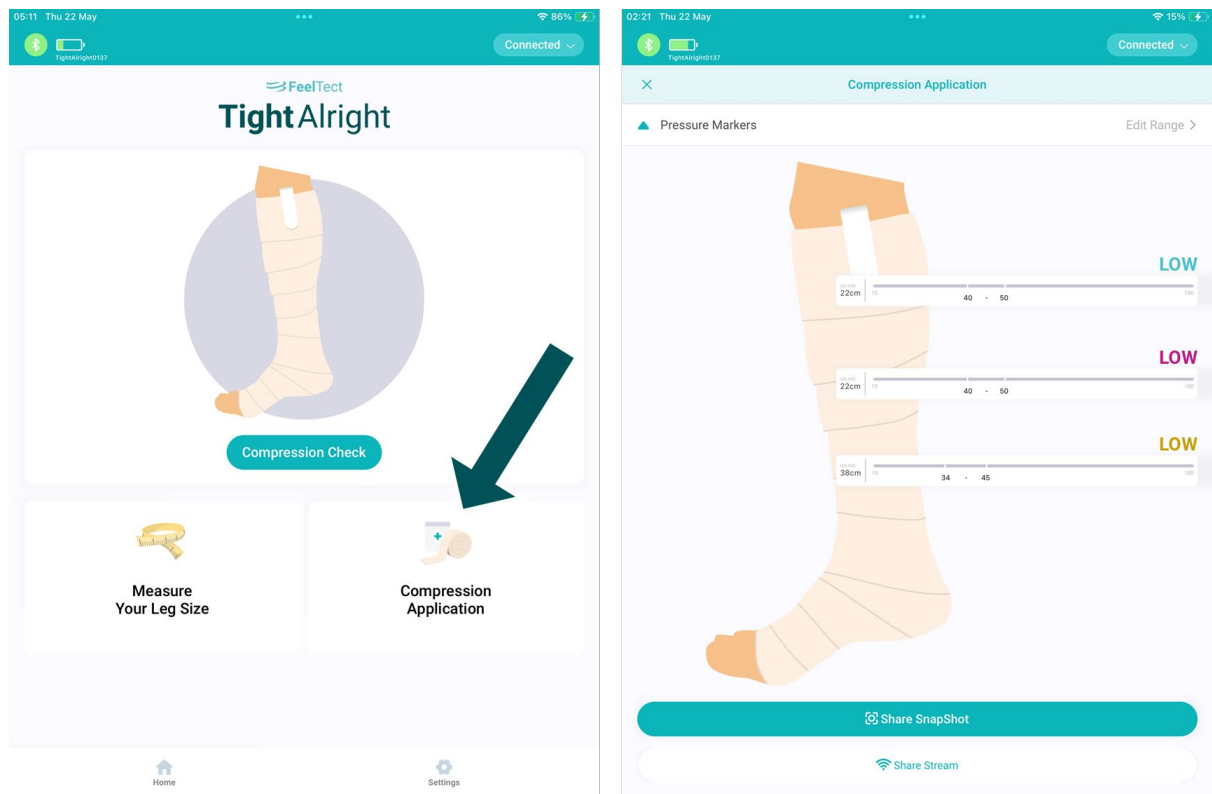

Figure 17. Click “Compression Application” in the “Home” screen of the Mobile App to view pressures during compression application.
- In the Mobile App **Home** screen, click **Compression Application** to view live readings while applying the compression layers (Figure 17). Any pressures below 15 mmHg will read as **LOW**.